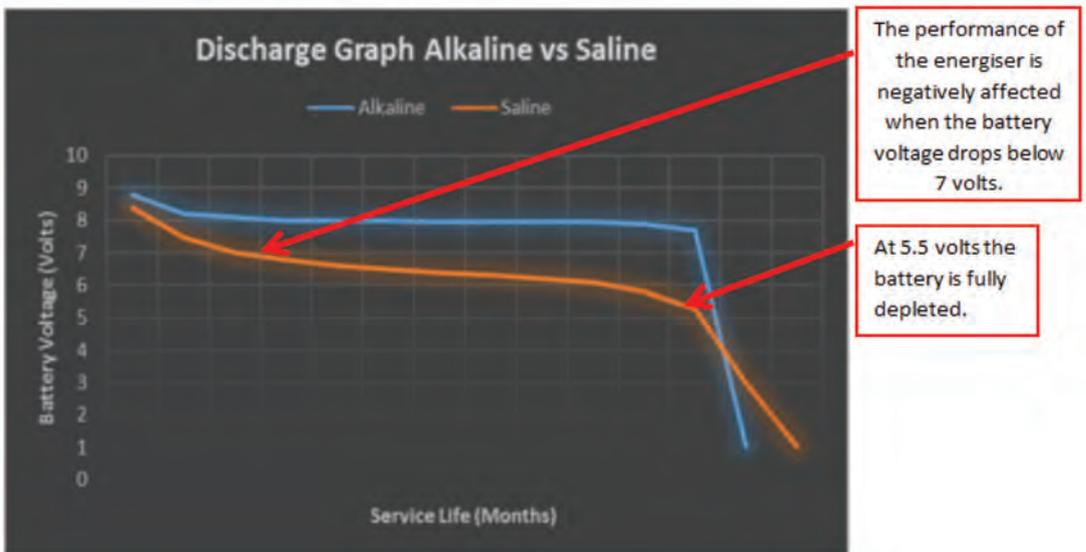

Figure 2: Discharge Graph – Alkaline vs Saline
- The rate of discharge of Alkaline and Saline batteries are very different see Figure 2 below. The tension of an Alkaline battery remains at approx. 8 Volts for the majority of its life whereas the tension of a Saline battery decreases at a pretty even pace over its life from 8.4 Volts to 5.5 Volts. With a decreasing battery tension, the energiser will use more electrical current to maintain the output energy and this will result in accelerated battery discharge.